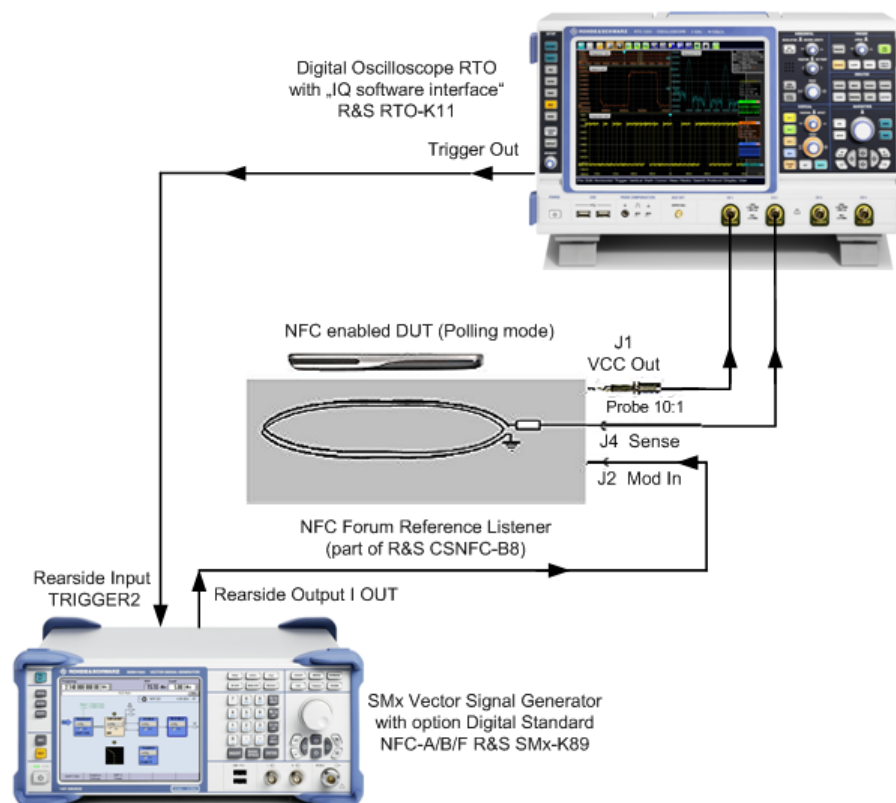

Figure 5-1: Test setup for an NFC mobile phone in polling mode (simplified schematic).
1. Connect the I OUT connector of the R&S SMx to the XJ2 (MOD IN) connector of the NFC Forum reference listener, see Figure 5-1.